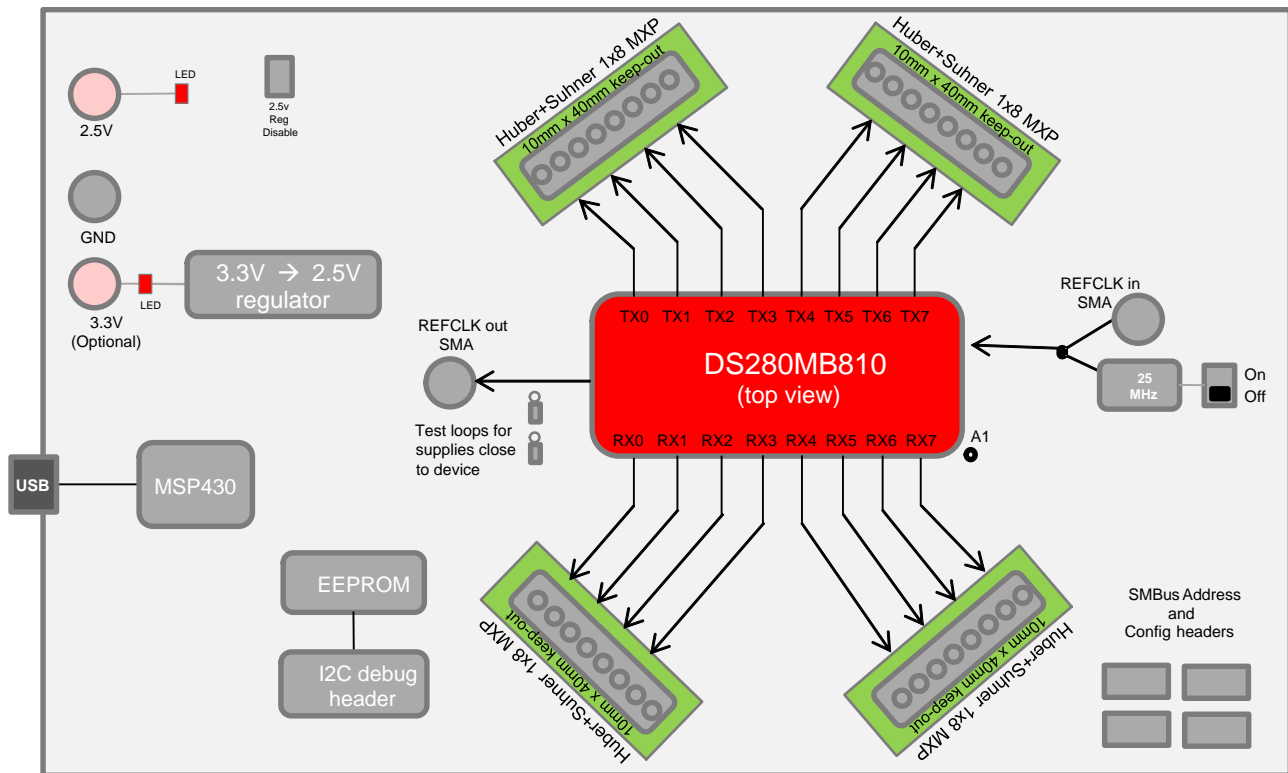
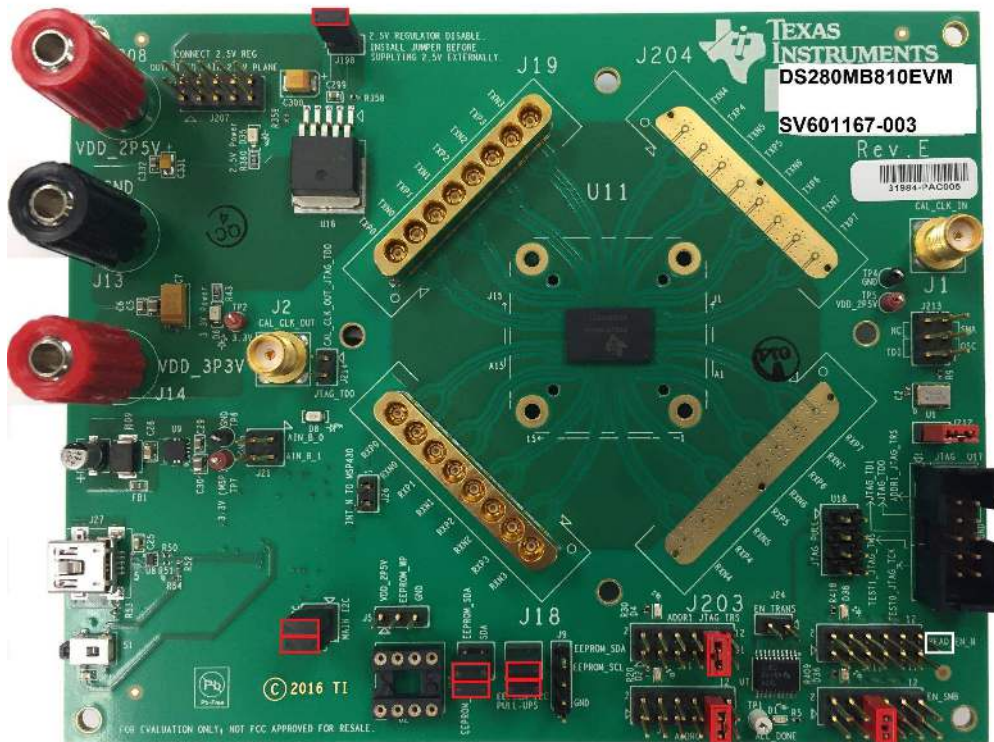

Figure 2. DS280MB810EVM Block Diagram.
Figure 4. DS280MB810EVM Default Configuration.
The general procedure for setting up and testing with the DS280MB810EVM is as follows. For hardware setup and connections in the steps below, reference the illustrations in Figure 2 and Figure 4 to implement the appropriate setup.
5. Install the appropriate jumper shunts to operate in default configuration with VDD = 2.5 V in SMBus Slave Mode or EEPROM Master Mode. The default configuration for the DS280MB810EVM operates in SMBus Slave Mode, as shown below in Figure 4.
NOTE: The jumper on J211 (if present) is connected only to pin 12, which is the pin in the white box in Figure 4 (the top right pin).